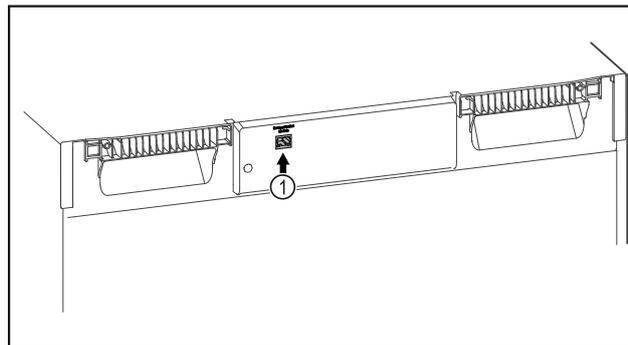

Fig. 103
- ▶ SmartModule Fig. 103 (1) is in use.